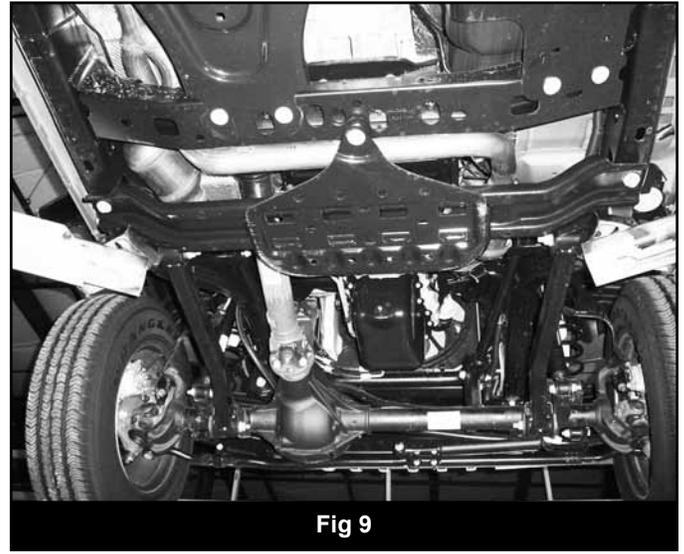

Fig 9
23. Remove the three bolts (4 on some models) mounting the transmission skid plate to the frame rails and transmission crossmember (Fig 9). This skid plate will not be reused. Retain the mounting hardware.